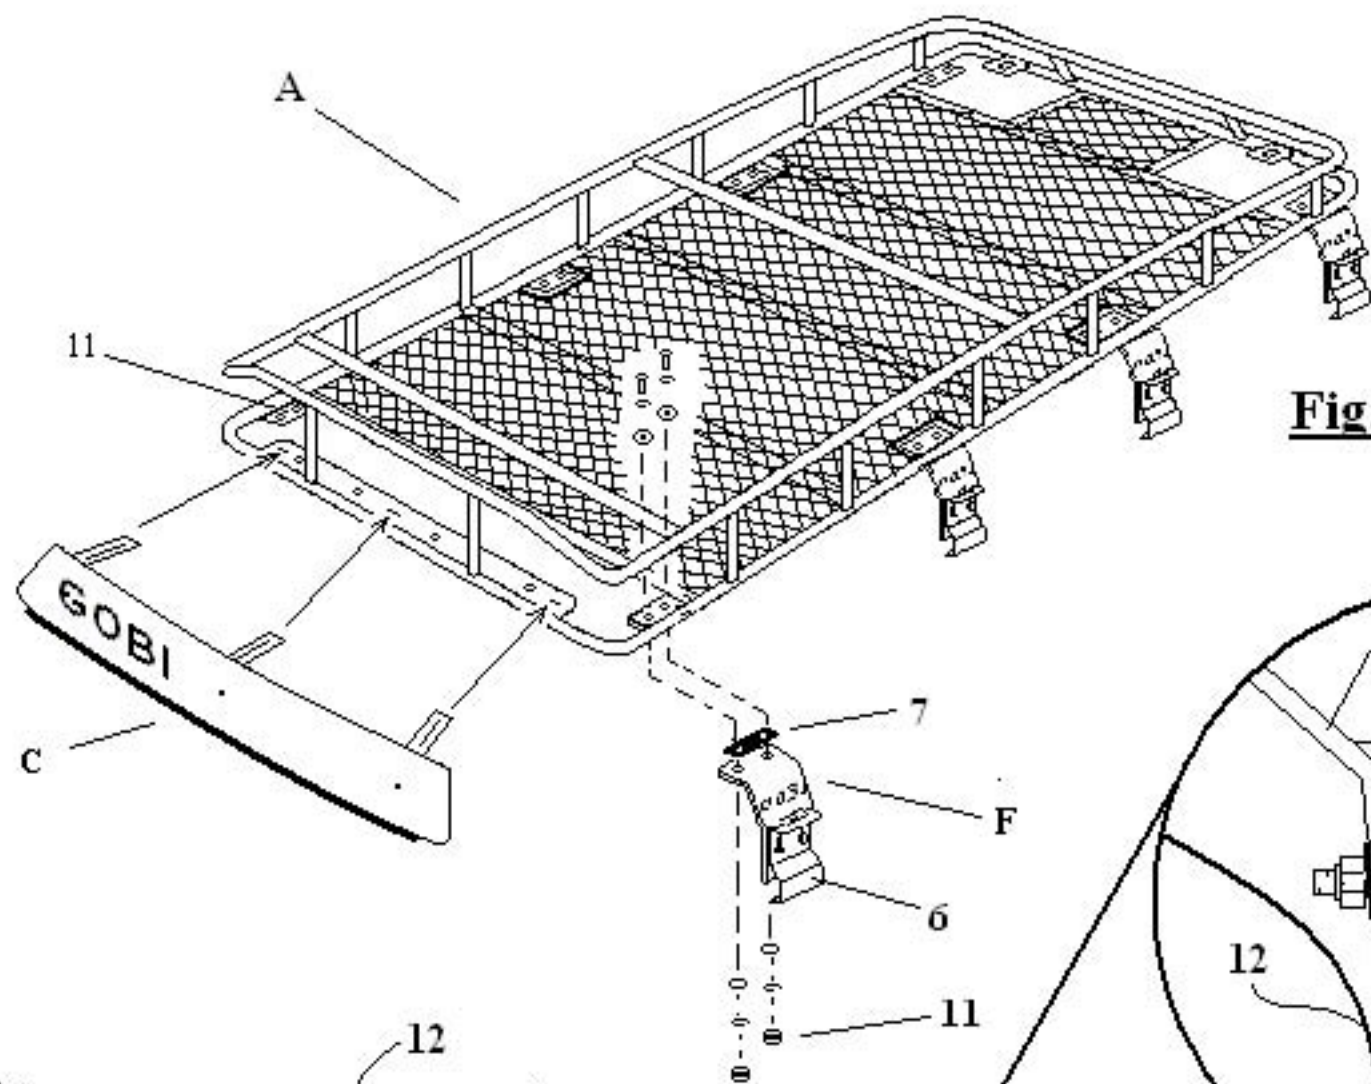

Fig. 1
- 3- Refer to page 3 remove all support brackets "F" from the hardware box and attach as shown on page 6 Fig. 1 to each flange #11 of the roof rack using the 3/8-16 screws, flat washers, lock washers and nuts located in Bag #3 of your hardware kit. Be sure to place rubber pad (7) between roof rack flange (11) and support bracket "F". Snug down only at this time.
- 5- Refer to page 6 Fig. 1 and completely tighten all screws, flat washers, lock washers and nuts (11) to securely anchor roof rack "A" to Gobi support brackets "F" as shown.